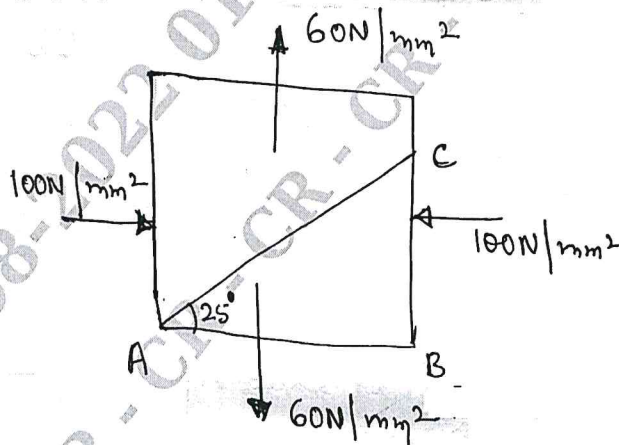

Fig Q3(c)
- The direct stresses at a point in a strained material are 100N/mm^2 compressive and 60N/mm^2 tensile as shown in Fig Q3(c). Find the stresses on the plane AC. (12 Marks)